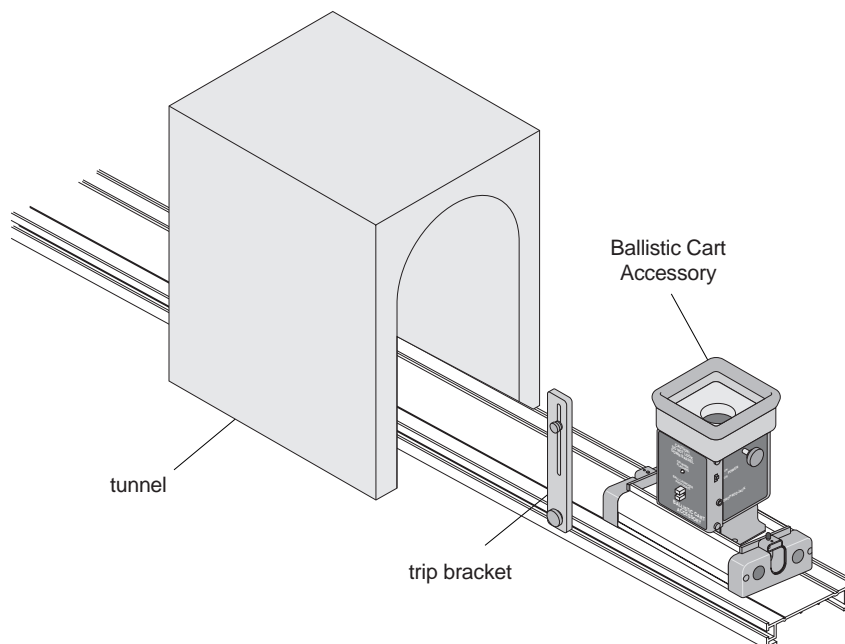

Figure 2.1: Tunnel
- ① Prior to the beginning of the demonstration, perform the Setup procedure.
- ② Construct a tunnel from a cardboard box: Cut the flaps off two opposing ends of the box. Cut a 15 cm wide, 27 cm high hole in these two opposing ends of the box. See Figure 2.1.
- ③ Set the box upside-down over the middle of the dynamics track. Check the clearance by running the cart through the tunnel.
- ④ Position the photogate trip bracket in front of the tunnel so the ball will be launched just before the cart enters the tunnel.
- ⑤ Load the ball and push the cart toward the tunnel. You may have to practice to get the right speed so the cart will make it through the tunnel before the ball comes down.